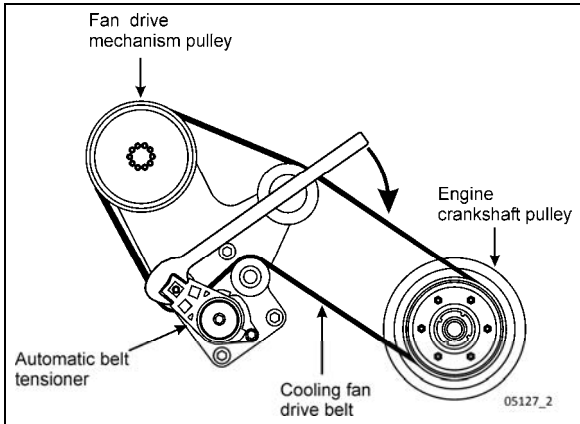

FIGURE 46: DRIVE BELT ROUTING (VOLVO D13 ENGINE)
1. Wrap the new drive belt around the fan drive mechanism pulley, the idlers and the automatic tensioner idler as shown on Figure 46.
belt and hold the tensioner in that position (Figure 46).